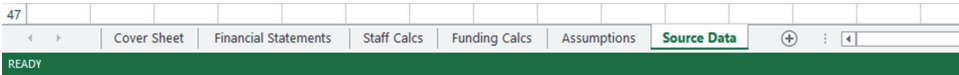

FIGURE 2.5 Model Structure
Typically, modellers will work from back to front when building their model. The output, or the part they want the viewer or user to see, will be at the front, calculations will go in the middle, and source data and assumptions should go at the back. Figure 2.5 shows an example of what your tabs in a well-structured model might look like.
- 1. **Design the high-level structure.** You’re not going to know exactly what the layout of the model will be until you dig into it, but you should have some idea of the tabs. Start by assembling the data you have so far into the tabs as shown in Figure 2.5.